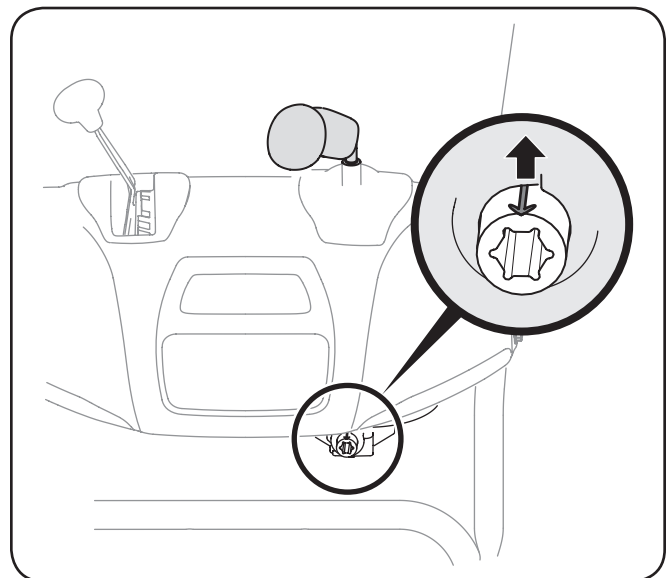

Figure 3-7
5. Rotate the joystick to the one o'clock position so that the silver indicator arrow on the pinion gear below the control panel faces upward. See Figure 3-7.